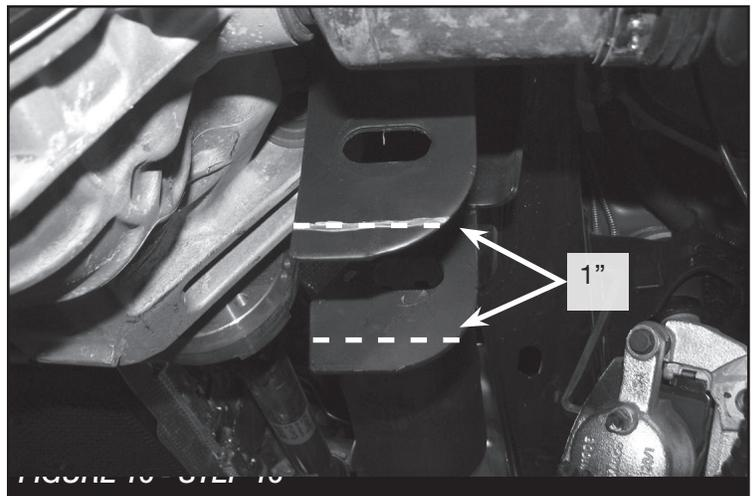

FIGURE 16 - STEP 16
17. Locate the front tab on the same mount. You will need to sand a 1/2" on the inside to clear the differential. **SEE FIGURE 16**